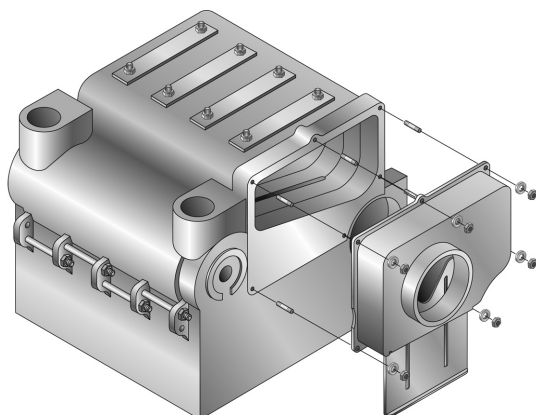

Figure 2.12: Rear Flue Collar Attachment
1. (LC) Remove the Flue Collar and Rear Observation Door Assembly from the LC Rear Flue Box Carton. (LCE) Remove the Top Flue Outlet Plate, the Rear Flue Cover Plate and the Rear Observation Door Assembly from the LCE Top Flue Outlet Carton.
2. (LC) Attach the Flue Collar to the Back Section with 5/16" x 1 1/2" studs, flat washers and hex nuts supplied. See Figure 2.12. (LCE) Attach the Rear Flue Cover Plate to the Rear Section with 5/16" x 1 1/2" studs, flat washers and nuts supplied.